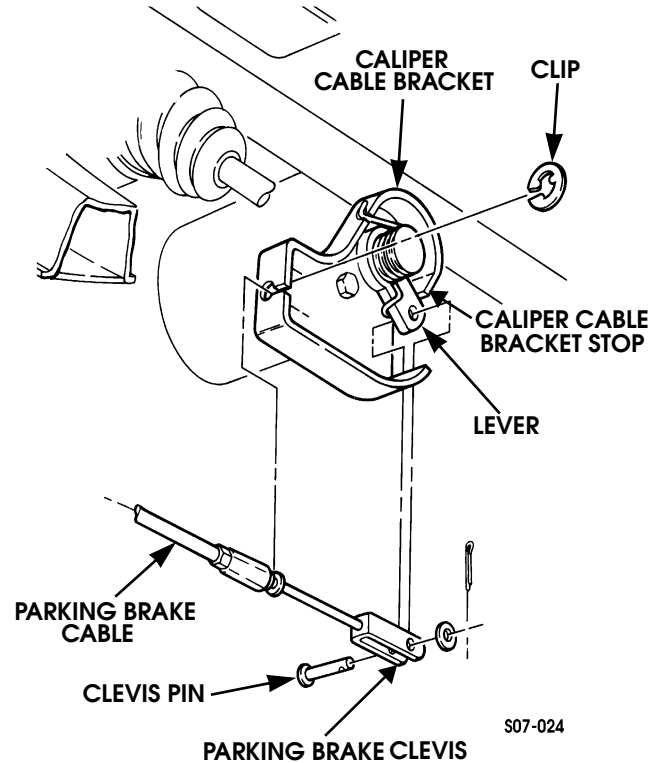

Figure 7-21: Rear Dual Brake Caliper Cable
6. Install parking brake cable to caliper cable bracket and secure with clip (Figure 7-21).
2. Remove cotter pin, washer, and clevis pin securing parking brake clevis to lever. Discard cotter pin (Figure 7-21).